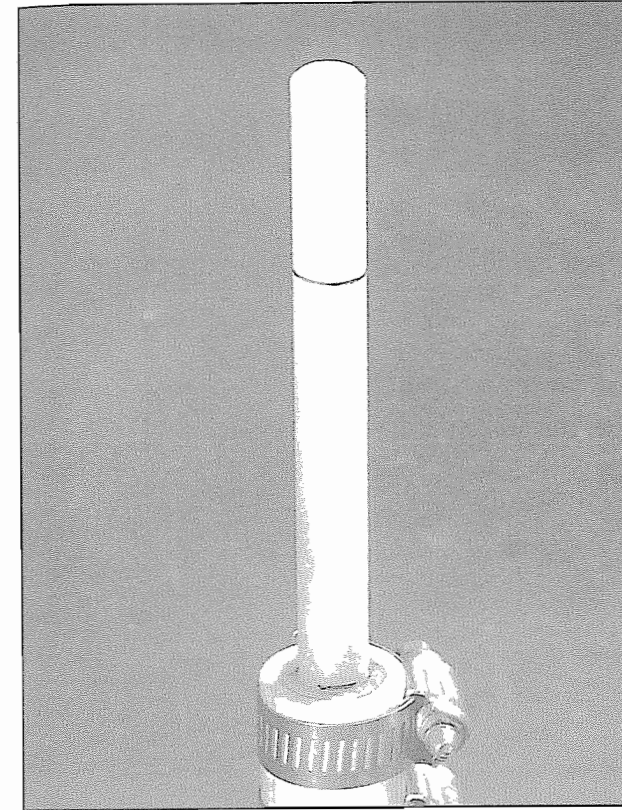

**Figure 10-67.** A second mark is made exactly 3.0" below the ring.
2. Place the casing (in the casing retainer) upright on a heavy block of steel or a concrete floor. With a 1/2" flat tamp (drawing #98-084-B on page 147), ram in 3.0 gms. of nozzle clay (**Figure 10-65**). A square of masking tape stuck to the bottom of the casing keeps the loose clay from falling out until ramming is complete. When ramming is finished, insert the tamp in on top of the clay, and scribe a ring at the point where it enters the front of the casing (**Figure 10-66**). Remove the tamp, and place a *second* mark *exactly* 3.0" below the ring (**Figure 10-67**).